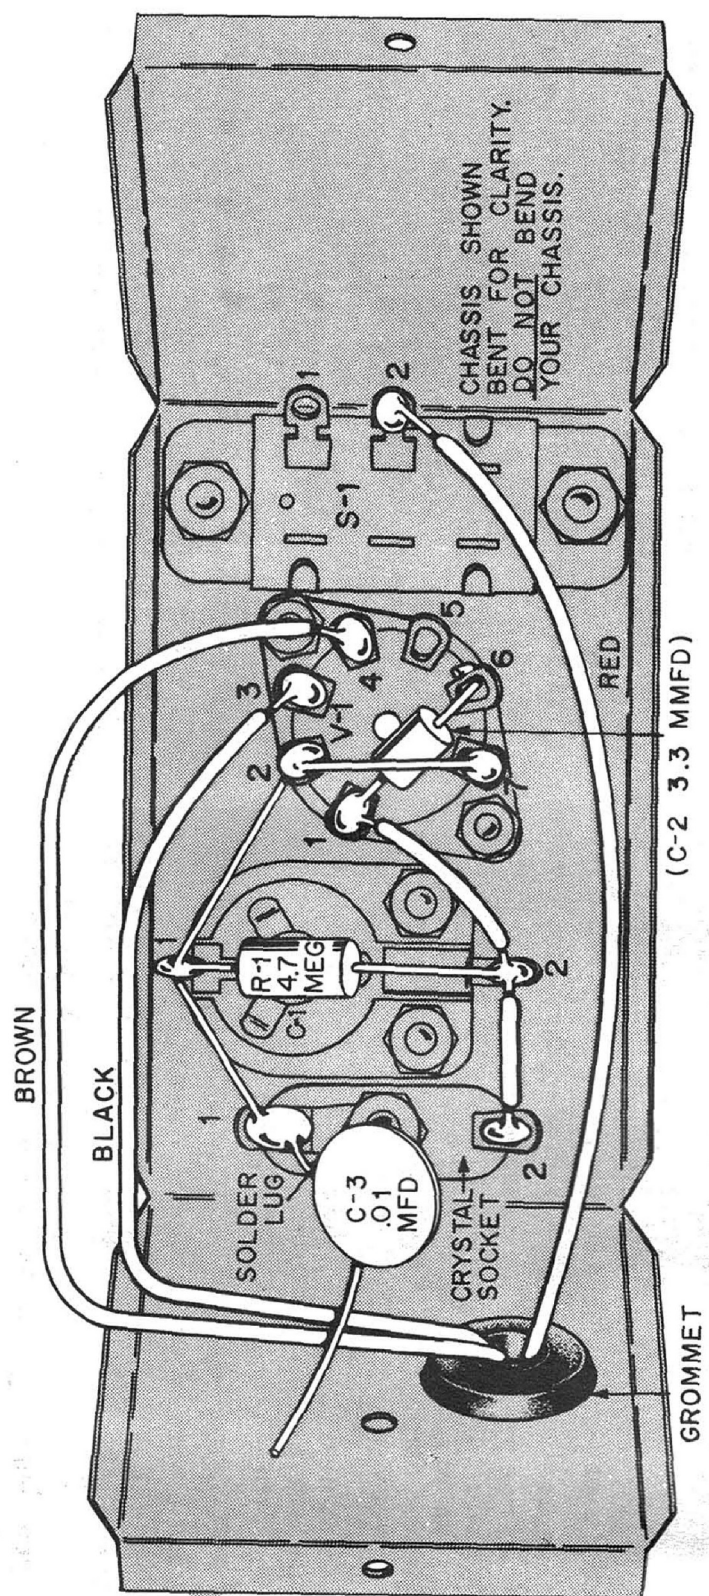

FIGURE 3. FIRST WIRING VIEW
SEE FIGURE 3:
- ☐ Bend both terminals of C-1, the trimmer capacitor, to the positions shown in Figure 3.